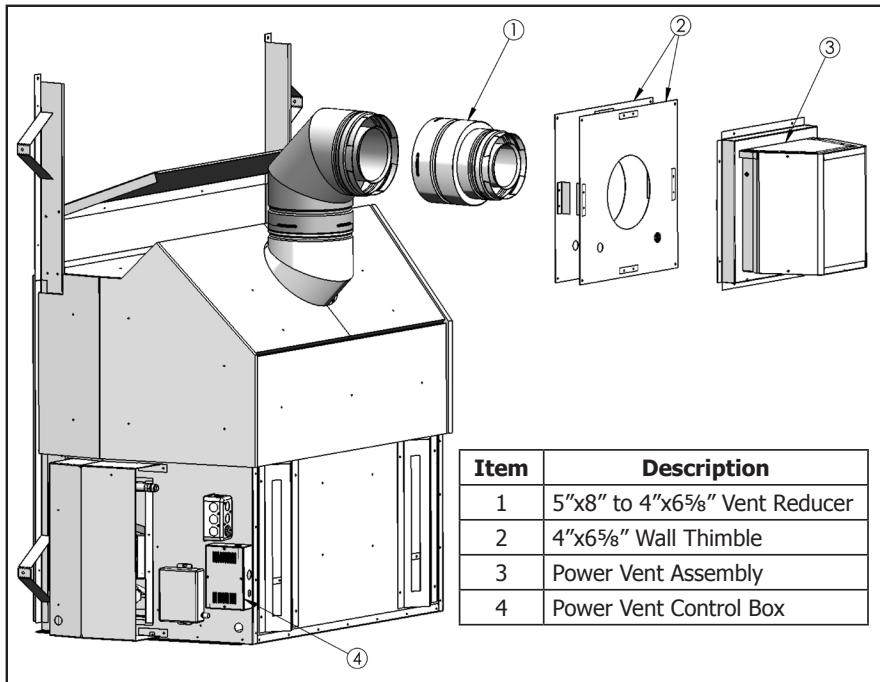

Figure 1a: DV48 Power Vent Kit's Parts Diagram.
15. Remove the protective cover from the PVK Control Box Velcro and secure the power vent control box to the side of the DV48 as shown in Figure 1a. If the appliance is a DV62, place the power vent control box inside the control box of the appliance.